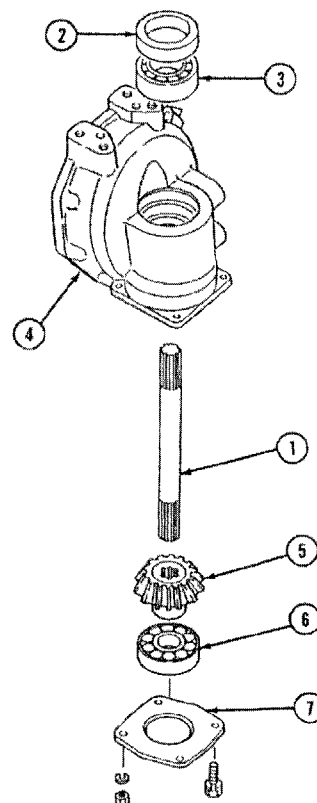

Figure 33
7. Install the idler case bearing (3) and seal (2) in the bevel gear case as shown, Figure 33.
8. Install the final drive pinion gear, bearing and cover in the bottom of the bevel gear case, as shown, Figure 33.
9. Install the pinion shaft (1), from the top, Figure 33.